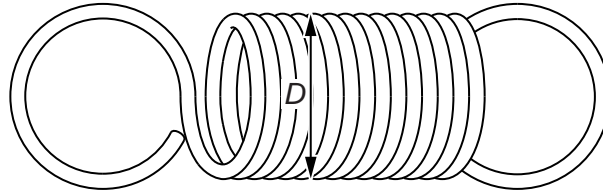

Fig. 2.1
- (a) (i) Measure and record the diameter D of the coiled part of the spring as shown in Fig. 2.1.